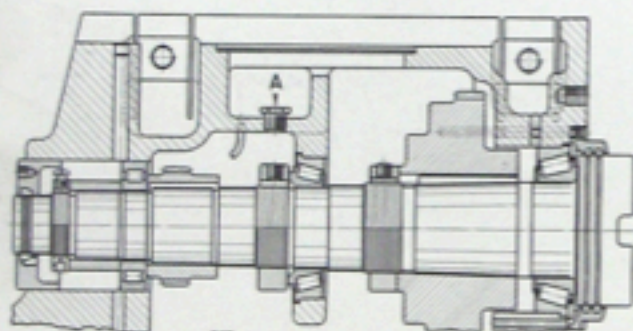

FIGURE 22A
3. **HORIZONTAL MACHINES**--Move overarm forward on machine until rectangular plate under it can be lifted from top of column. Move overarm with pilot wheel then pull further by hand. Support front end of overarm while it is in this forward position. Remove plug "A". (Figure 22A.)